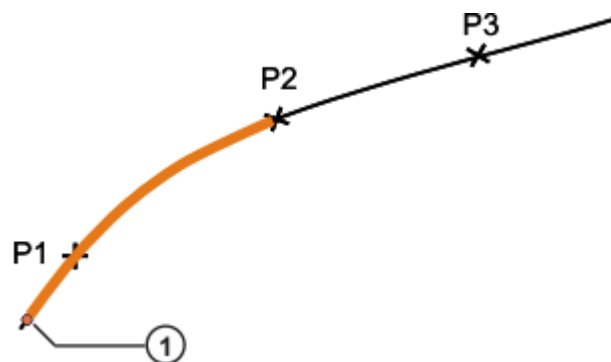

Fig. 7-8: Example motion for logic with advance run
Signal-dependent wait functions programmed **with advance run** allow approximate positioning to be carried out for the point before the command line. However, the current position of the advance run pointer is not unambiguous (default value: three motion blocks), so the precise moment at which the signal will be checked is not specified (1) (>>> Fig. 7-8 ). Furthermore, signal changes after the signal has been checked are not detected!